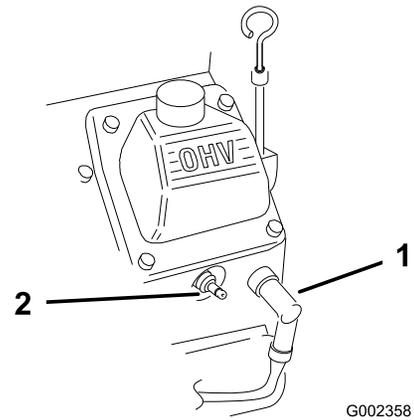

Figure 23
2. Disconnect the wires from the spark plugs (Figure 23).